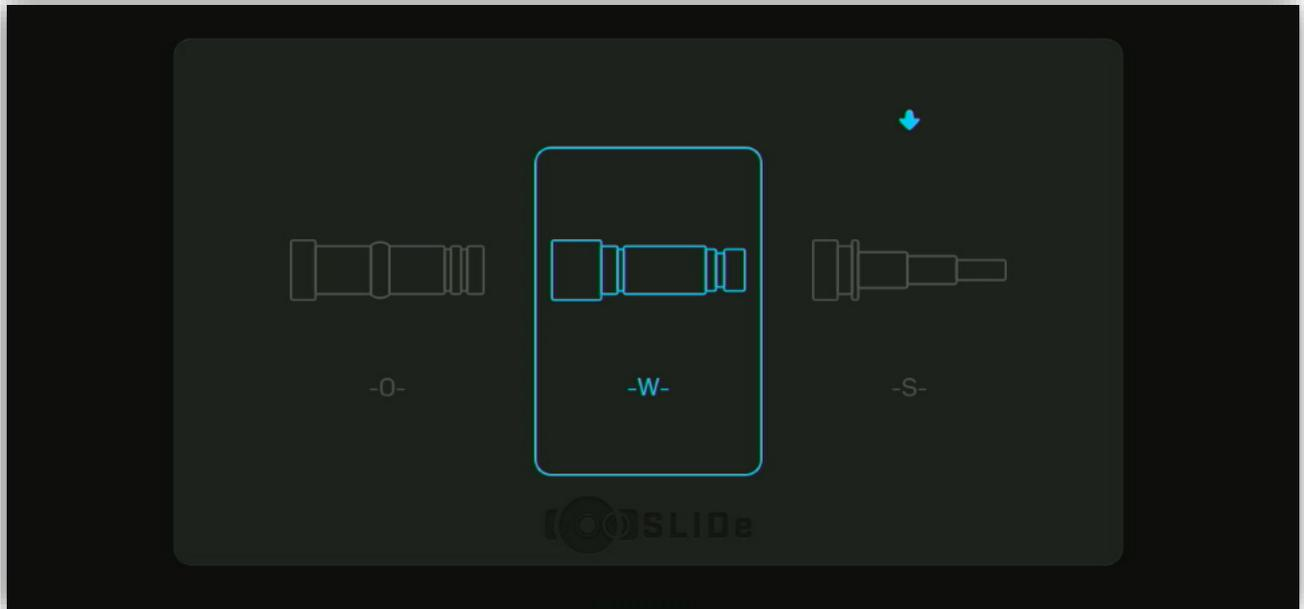

Figure 7 - Light cable selection menu
- Select the light cable standard setting and validate, you arrive on the following screen (see Figure 7).
- Olympus (O),
- Wolf (W),
- Storz (S).